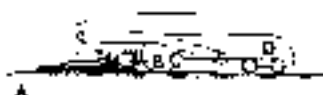

FIGURE B-6
For example to increase thickness, the screed is tilted up and gradually rides up to a higher level. Figure B-6 until line (AB) again becomes parallel to direction of pull (CD). Figure B-7.